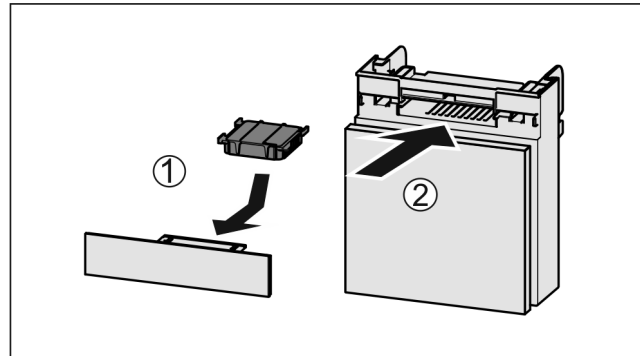

Fig. 145
- ▶ Insert the carbon filter as shown in the diagram Fig. 145 (1).
- ▶ Push the compartment in Fig. 145 (2).